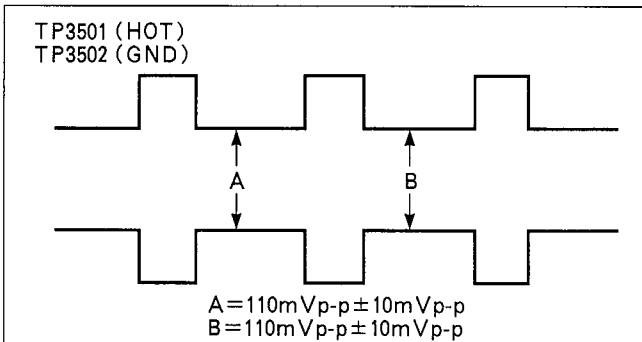

Figure E59
3. Connect a scope to TP41009 (HOT), TP41010 (GND) and adjust VR41015 and VR41016 so that the "A" and "B" levels become  $150\text{mVp-p} \pm 10\text{mVp-p}$  as shown in Figure E59.